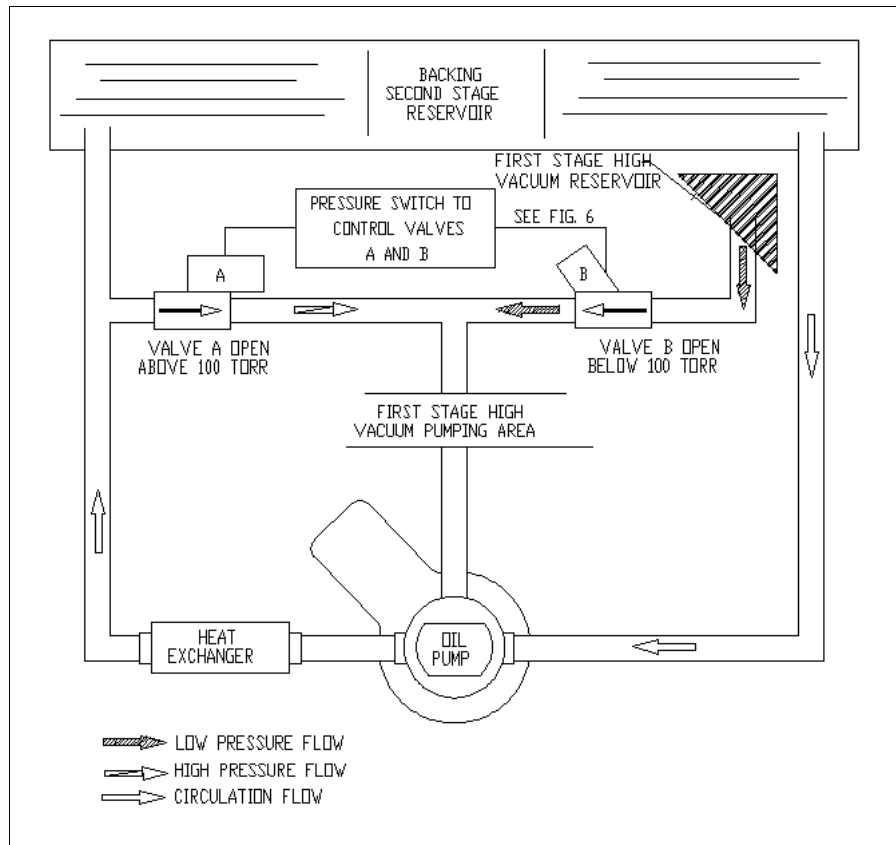

Figure 2. Oil Flow KTC 112
Figure 2 shows the oil flow for KTC-112 pumps. It circulates oil from the backing (second) stage reservoir through a water-cooled heat exchanger and back to the reservoir. When the pump is at a pressure above 100 Torr, some of the oil leaving the heat exchanger is admitted through solenoid valve (A) into the high vacuum (first) stage via the bearing located on the non-drive side of the pump. Below 50 Torr, the pressure switch closed solenoid valve (A) and opens solenoid valve (B) and the high vacuum (first) stage is then supplied with degassed oil from the first stage reservoir. The oil supply pressure is provided by interstate pressure and the reservoir oil head. A solenoid valve located on the drive side of the pump, which is open when the pump is running controls oil to the backing (second) stage. Oil is delivered into the backing stage by differential pressure.